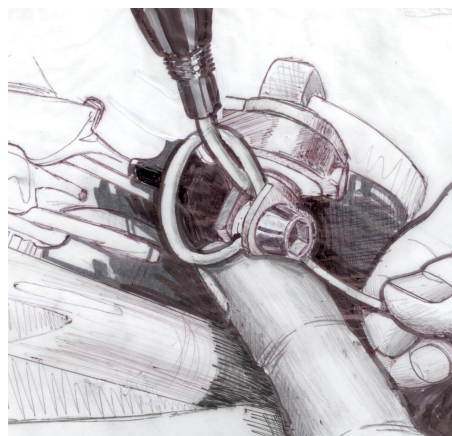

Fig. 7—Wrap Cordz 360 degrees around anchor bolt while creating an overhand knot.
9. Run Cordz under anchor bolt following the same entry path of original cable. **Wrap Cordz 360 degrees around anchor bolt while creating an overhand knot** (fig. 7).
10. Pull Cordz tight and, using a finger to hold underside of knot in place, tighten knot around the anchor bolt (fig. 7). Tighten bolt enough to hold Cordz but no more at this time.